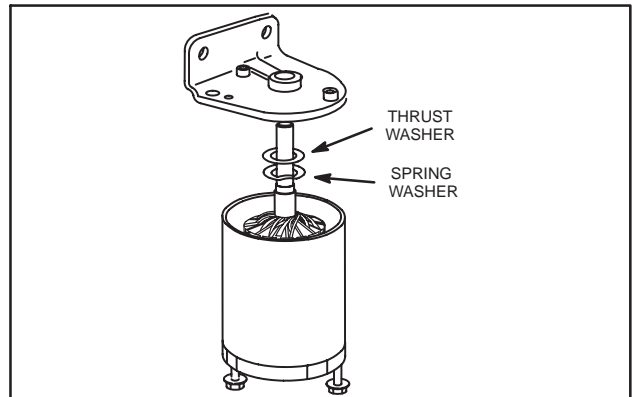

Fig. 17 – Install Drive End Cap
5. Assemble spring washer and thrust washer to armature shaft and install drive end cap, Fig. 17.